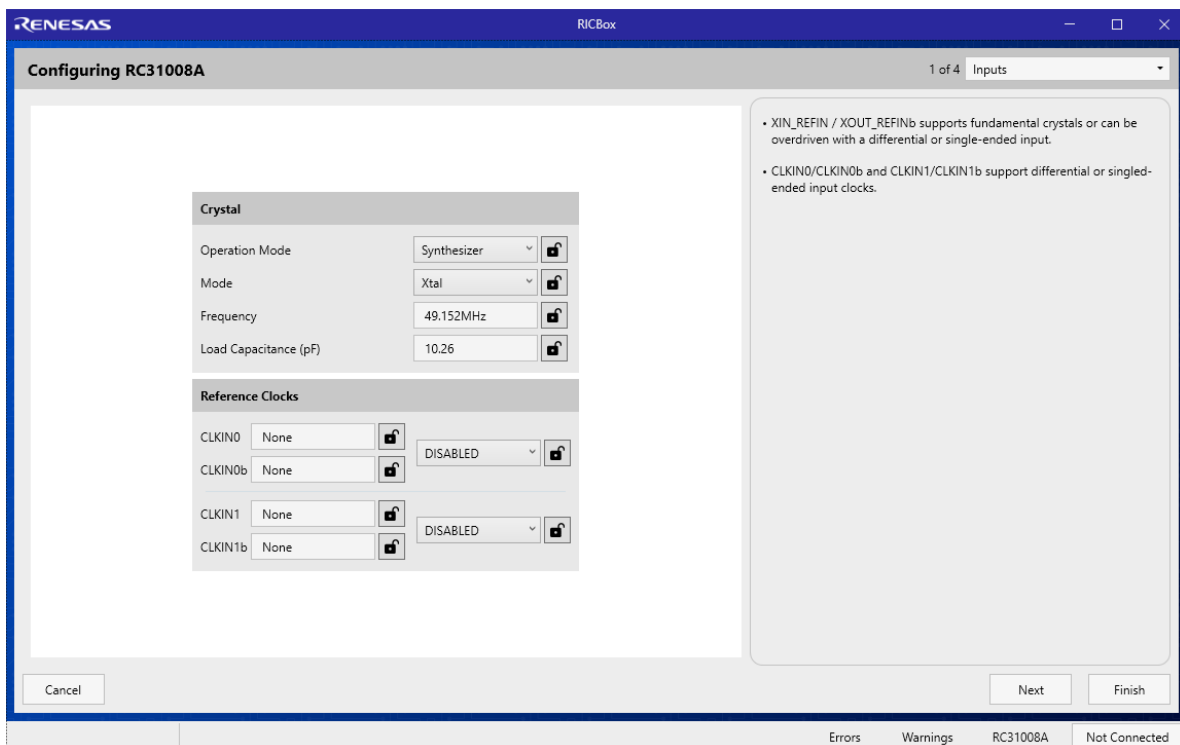

Figure 21. Inputs Wizard Page
- On the Inputs wizard page (Figure 21), the operation mode can be chosen from Synthesizer, Jitter Attenuation, or DCO. Expected crystal frequency needs to be entered. The C_L can also be set internally between 6pF to 12pF. If a reference clock is needed as an alternate clock source or for jitter attenuation, the expected frequency and type can be set in the Reference Clocks section.